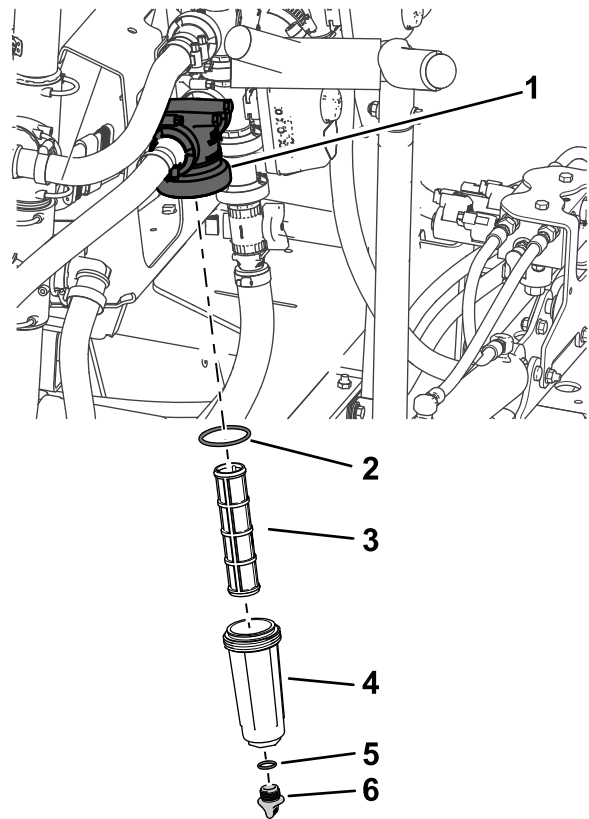

Figure 90
- Align a drain pan under the pressure filter (Figure 90).
- Rotate the drain cap counterclockwise and remove it from the bowl of the pressure filter (Figure 90).
4. Rotate the bowl counterclockwise and remove the filter head (Figure 90).
5. Remove the pressure filter element (Figure 90).
7. Check the gasket for the drain plug (located inside the bowl) and the gasket for bowl (located inside the filter head) for damage and wear (Figure 90).
8. Install the pressure filter element into the filter head (Figure 90).
9. Install the bowl onto the filter head, and tighten by hand (Figure 90).
10. Assemble the drain cap onto the fitting at the bottom of the bowl, and tighten the cap by hand (Figure 90).